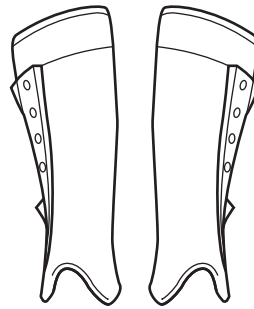

Fig. 6
- 7 Fig. 6 shows a pair of shin pads used by hockey players. The shin pads are made from a composite material.